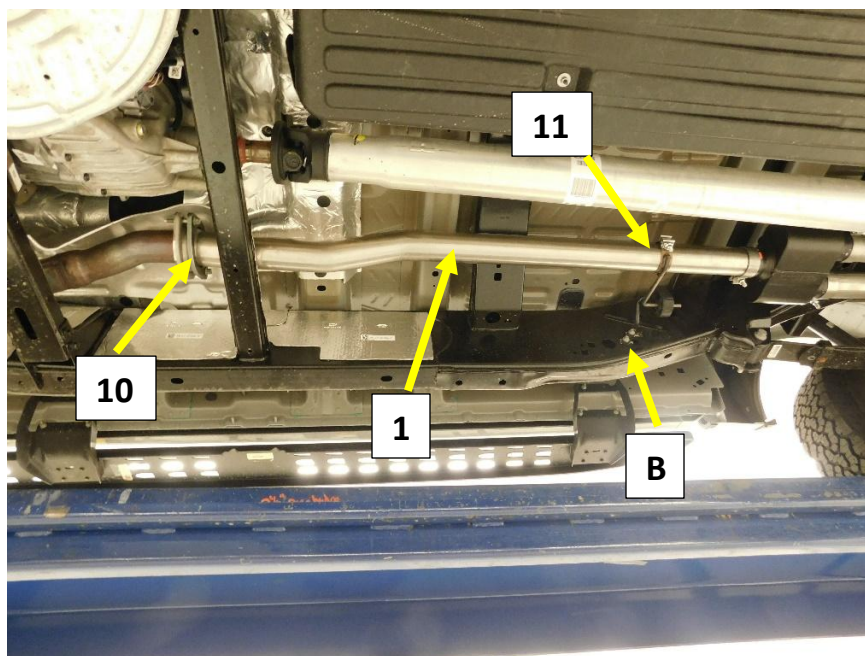

Figure.7
3. Install the 2-bolt flange (10) on to the muffler Inlet pipe (1) with the machined edge towards the flare. **Fig.7**
4. Install the Muffler inlet pipe on to the Y pipe using the Bolts removed from the factory Exhaust. **Fig.7**
5. Install the supplied Clamp Hanger (11) on to the Muffler inlet pipe (1) and align with the frame hanger (B). Install the rubber Isolator on to the hanger rods and tighten the Clamp. **Fig.7**